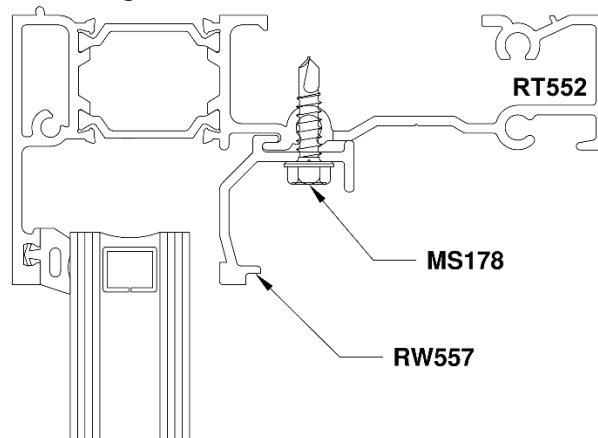

Figure 53: RW557 Glass Stop Installation
16.3.1 Install **RW557** Glass Stop with **MS17842** fasteners as shown in *Figure 53*. Apply sealant to the Verticals where the front face of the glass stop will join and place the stop into position. Tool the sealant into the corners between the Glass Stop and the Vertical to ensure a watertight seal. Clean excess sealant.